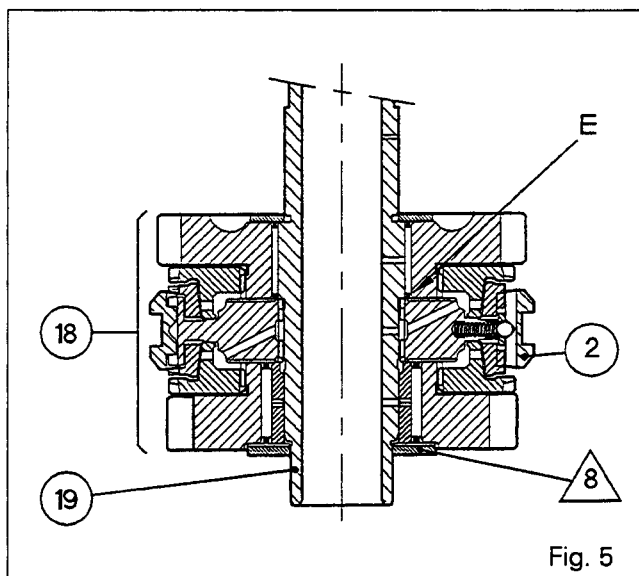
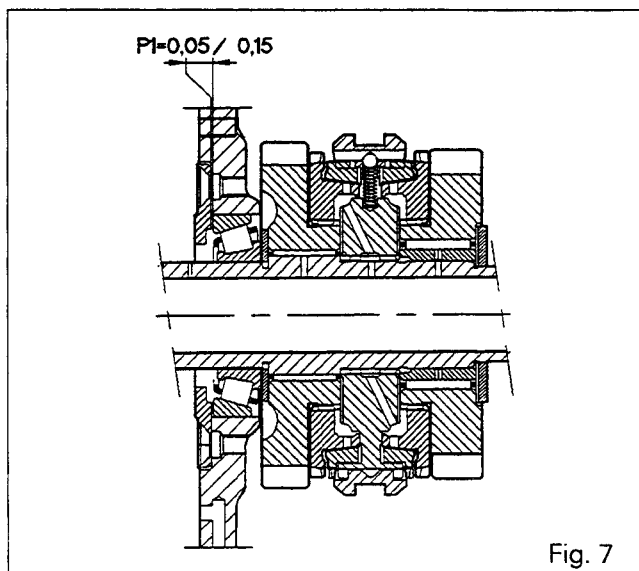

Fig. 5
Fig. 7
28. Centre the friction washer /8\ . Passing via the bore in the front of the unit, fit the secondary shaft (19) in the gear/synchromesh assembly (18), with shoulder «E» pressed against the synchromesh (2) (Fig. 5).
29. Position the cup (37) and the locking plate (25) without shims [1].
30. Fit the bolts (36) and tighten them to a torque of 36 to 46 Nm.
32. Carry out shimming (Fig. 7) to obtain preloading of: